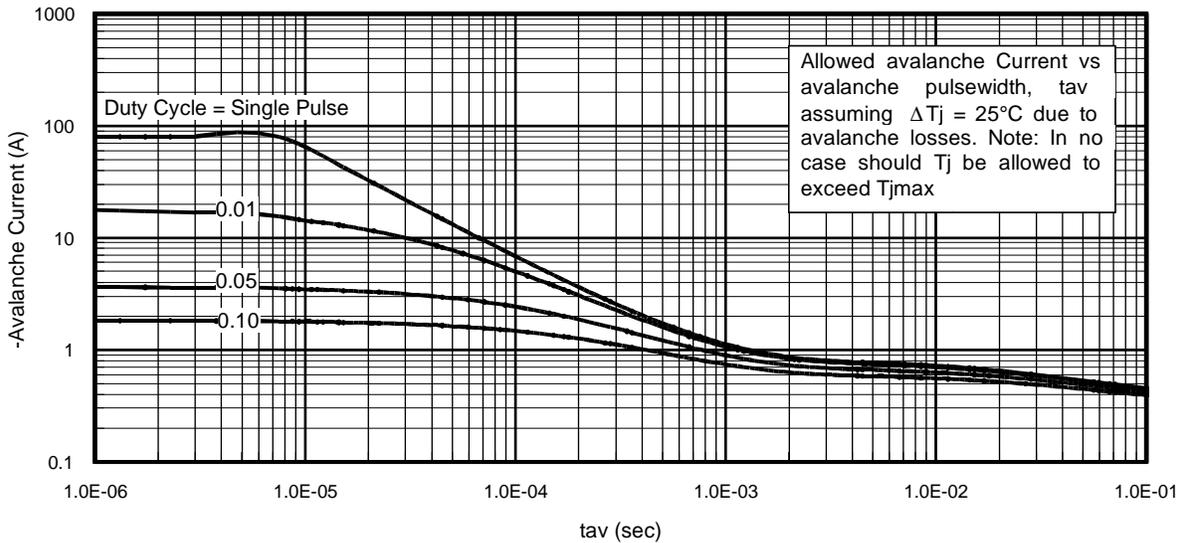

Fig 14. Typical Avalanche Current Vs. Pulsewidth
Notes on Repetitive Avalanche Curves , Figures 14, 15:
7. ΔT = Allowable rise in junction temperature, not to exceed T_{jmax} (assumed as 25°C in Figure 14, 15).
- ① Repetitive rating; pulse width limited by max. junction temperature.
- ② Starting $T_J = 25^\circ\text{C}$, $L = 3.89\text{mH}$, $R_G = 25\Omega$, $I_{AS} = -10\text{A}$.
- ③ Pulse width $\leq 400\mu\text{s}$; duty cycle $\leq 2\%$.
- ④ R_θ is measured at T_J of approximately 90°C .
- ⑤ Limited by T_{jmax} . See Figs. 14, 15, 17a, 17b for repetitive avalanche information